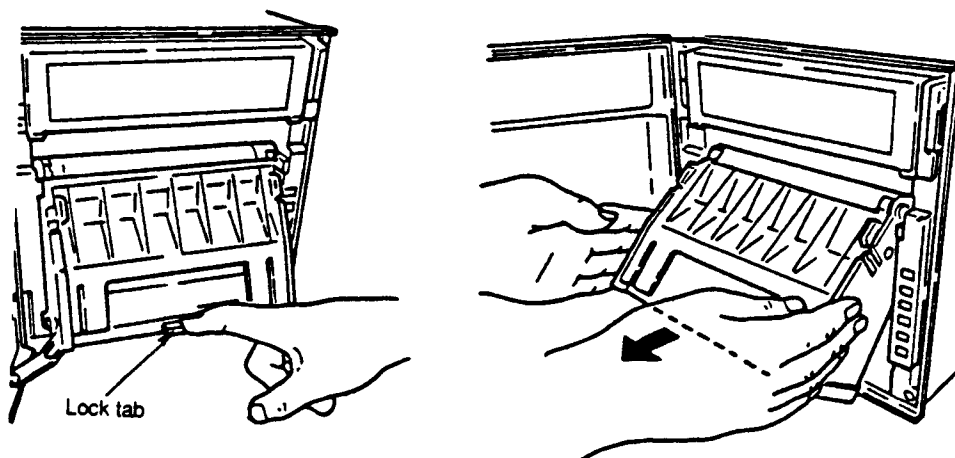

Figure 3-2. Loading the Chart-1
4. While gently pressing the chart paper compartment lock tab (located at the lower front) in the direction of the arrow, swing and lift the compartment away from the unit (see Figure 3-2).